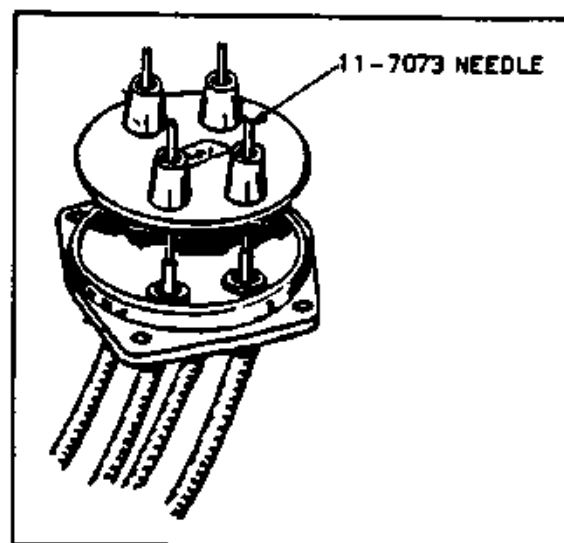
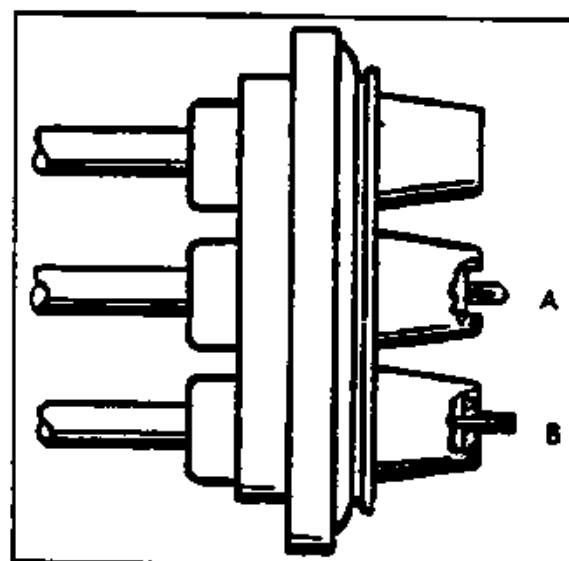

Figure 8-24. Installing Grommet Over Lead Assemblies
Figure 8-26. Wire Doubled Over For Installation of Eyelet
met and over stripped end of wire. (Refer to Figure 8-24.) Slide grommet down needle until it seats tightly against the tapered ferrule.
14. Cut wire  $3/8$  inch from top of grommet outlet. (See Figure 8-24.) Double wire over as shown in A of Figure 8-26. Slide eyelet over doubled wire until it is firmly seated in recess of grommet outlet.
15. Using the "AB" groove of Scintilla 11-4152 Crimping Tool, or equivalent, crimp eyelet to wire. Approximately 1/32" of wire should extend from end of eyelet after crimping. See B of Figure 8-26.